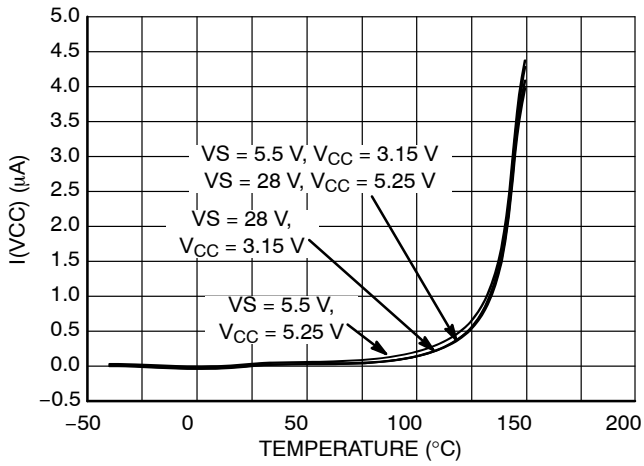

Figure 16. I(VCC) vs. Temperature
7. Refer to Figure 16 for the V_{CC} standby current behavior.